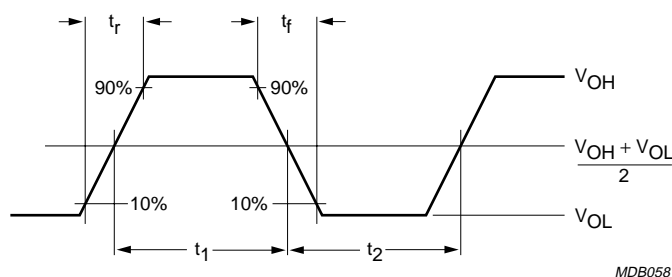

Fig.12 Definition of output and input transition times.
5. Transition time and duty factor definitions are shown in Fig.12; $\delta = \frac{t_1}{t_1 + t_2}$